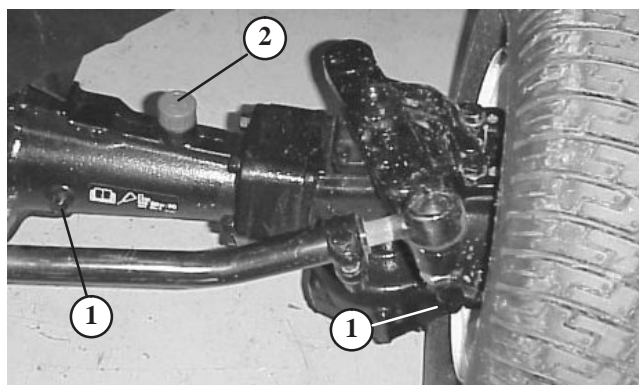

Figure 21
2. Remove the 3 check plugs from axle (Fig. 21 and 22) and make sure lubricant is up to bottom of each hole.